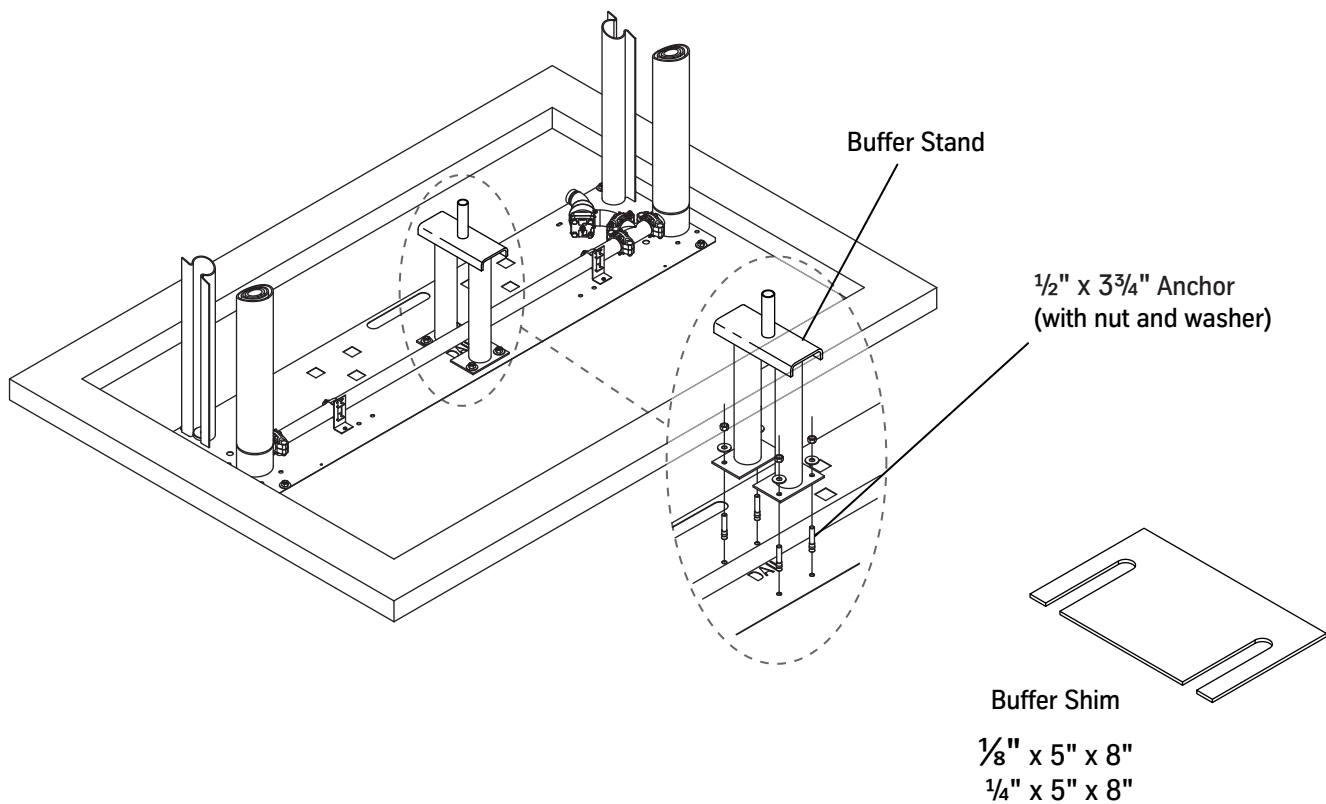

Figure 8 - Buffer Stand Installation
1. Place the buffer stand on the pit template. See Figure 8.